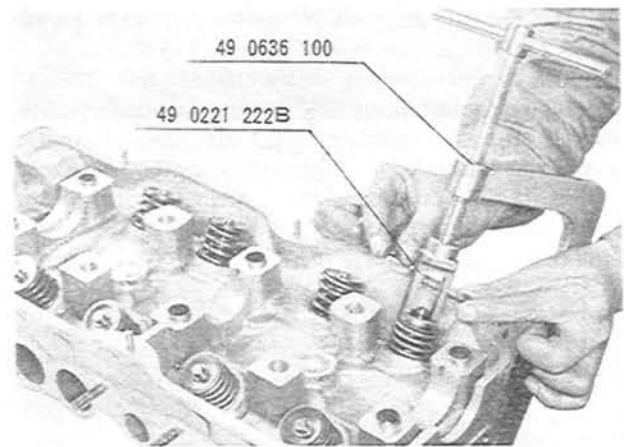

Fig. 1-6 Removing of valve
2. Use the **valve spring lifter** (49 0636 100) as shown in Fig. 1-6 and compress the valve springs.